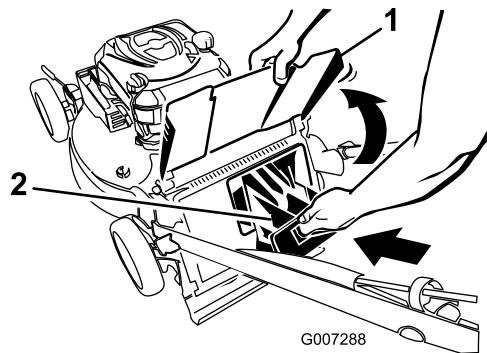

Figure 27
**Important:** Ensure that the rear discharge plug is locked in place. To lock the plug: Raise the discharge deflector (Figure 27), firmly push the plug in until it snaps into place behind the tabs, and rotate the lever on the plug to the left (Figure 26).